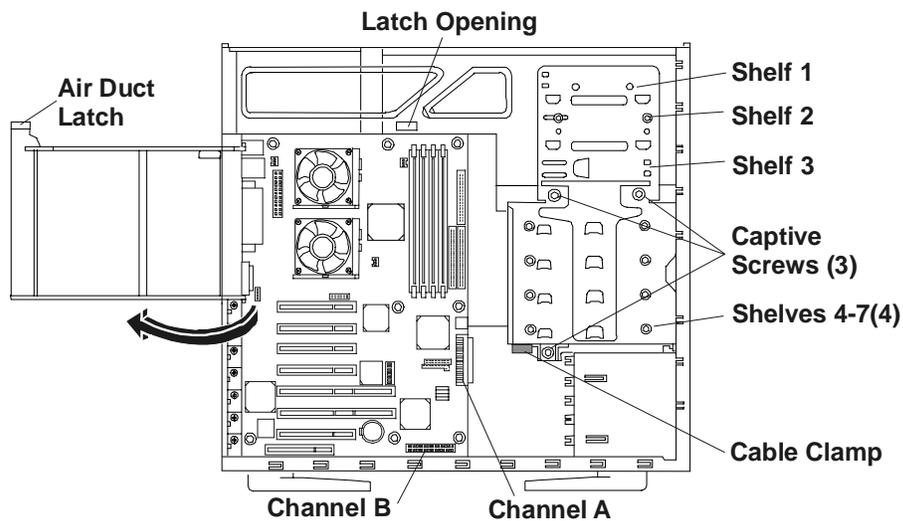

Figure 3-1. Moving the Air Duct
The flexible disk drive and CD-ROM drive, which are standard on all models of the HP NetServer E 800, occupy shelves 1 and 2 respectively. See Figure 3-1.
5. Unlatch the air duct and move it out of the way. See Figure 3-1.
If necessary, disconnect the SCSI cable from the cable clamp on the underside of the drive cage to free the drive cage. See Figure 3-1.
7. Loosen the three captive screws on the hard disk drive cage. See Figure 3-1.
12. Connect the SCSI cable to the disk drive(s). See Figure 3-1.